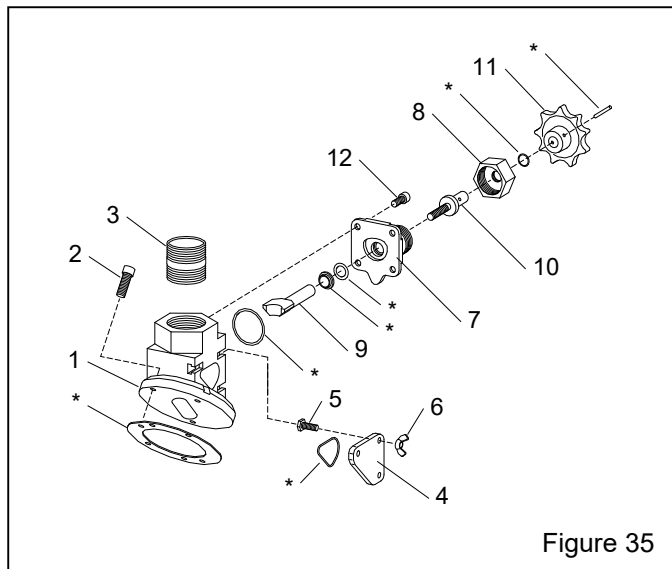

Figure 35
10.9 Quantum HP Bicarb Metering Valve Metering-Segment – Figure 35